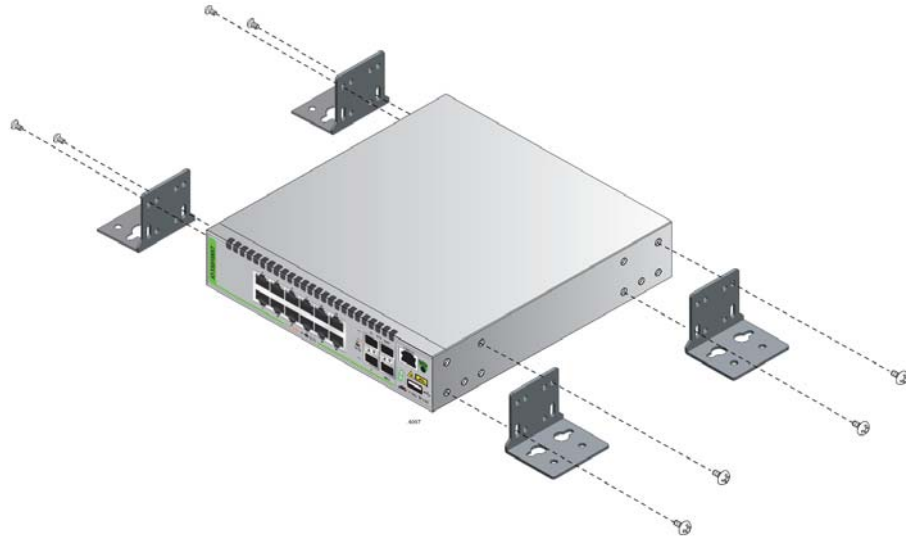

Figure 35. Installing the Wall Brackets
2. Install the four AT-BRKT-J24 wall brackets to the sides of the unit, with the sixteen M4x6mm screws included with the switch. Refer to Figure 35.
2. Install the four AT-BRKT-J24 wall brackets to the sides of the unit, with the sixteen M4x6mm screws included with the switch. Refer to Figure 35 on page 62.